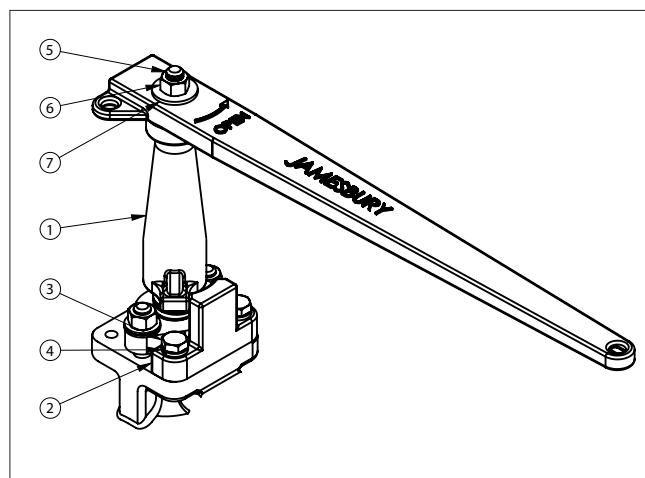

Figure 13. Stem Extension
2. Lower the handle stop (2) straight down in line with the valve stem until it is flat on the valve bonnet, and both mounting holes align with tapped holes on the valve (see **Figure 13**). **NOTE:** The stop should be mounted rearward on the bonnet, between the stem and body pipeline flange. The curved side should be towards the stem.
3. Insert the stop screws (3) and lock washers (4) into the mounting holes and thread into the valve until finger tight only.
4. Screw threaded rod (5) into tapped hole on top of stem.
5. Aligning the slot in the stem extension (1) with drive on the stem, lower the stem extension straight down over the threaded rod (5) and in line with the valve stem until it is completely engaged. If the stem extension (1) interferes with the stop (2), move the stop slightly to remove interference. **DO NOT** rotate stem!
6. Aligning the slot in the handle with drive on the stem extension (1), lower the handle straight down over the threaded rod (5) and in line with the stem extension drive until it is completely engaged. **NOTE:** When looking down at the top of the valve, the cast lettering and "OPEN" arrow on the handle should be visible. If they are not visible the handle is installed upside down.
7. Install the washer (7) over the threaded rod onto the handle. Thread handle nut (6) onto threaded rod and tighten handle nut (6) to torque value listed in **Table 6**.
9. Rotate stop (2) until the stop contacts the side of the stem extension stop boss (1) (see **Figure 13**).